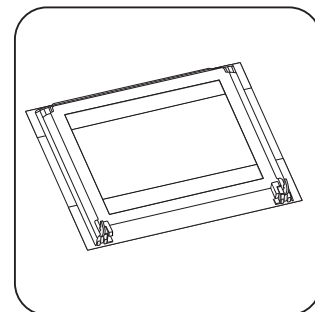

Figure 24: Place door on soft surface
4. Put the door on a soft cloth on a stable surface (Figure 24).